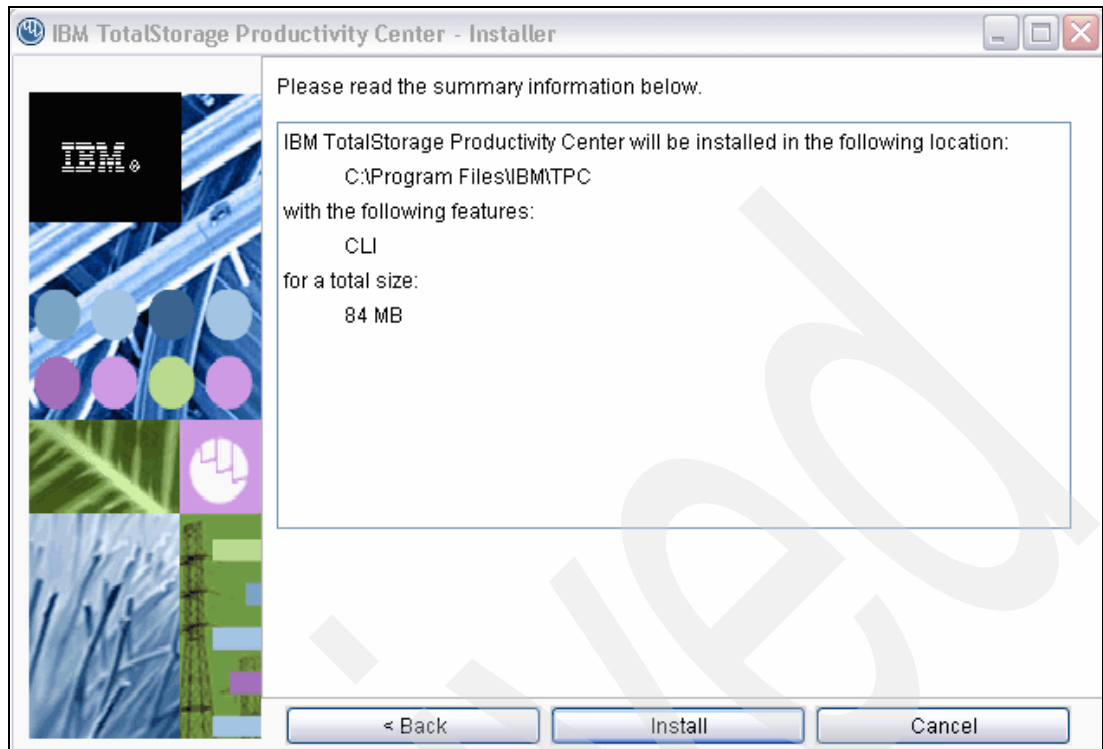

Figure 6-34 Summary of installation
7. TPC now gives you a summary of the information that you have entered in the previous windows as well as the size of the installation (see Figure 6-34 on page 259). Click **Install** to proceed.